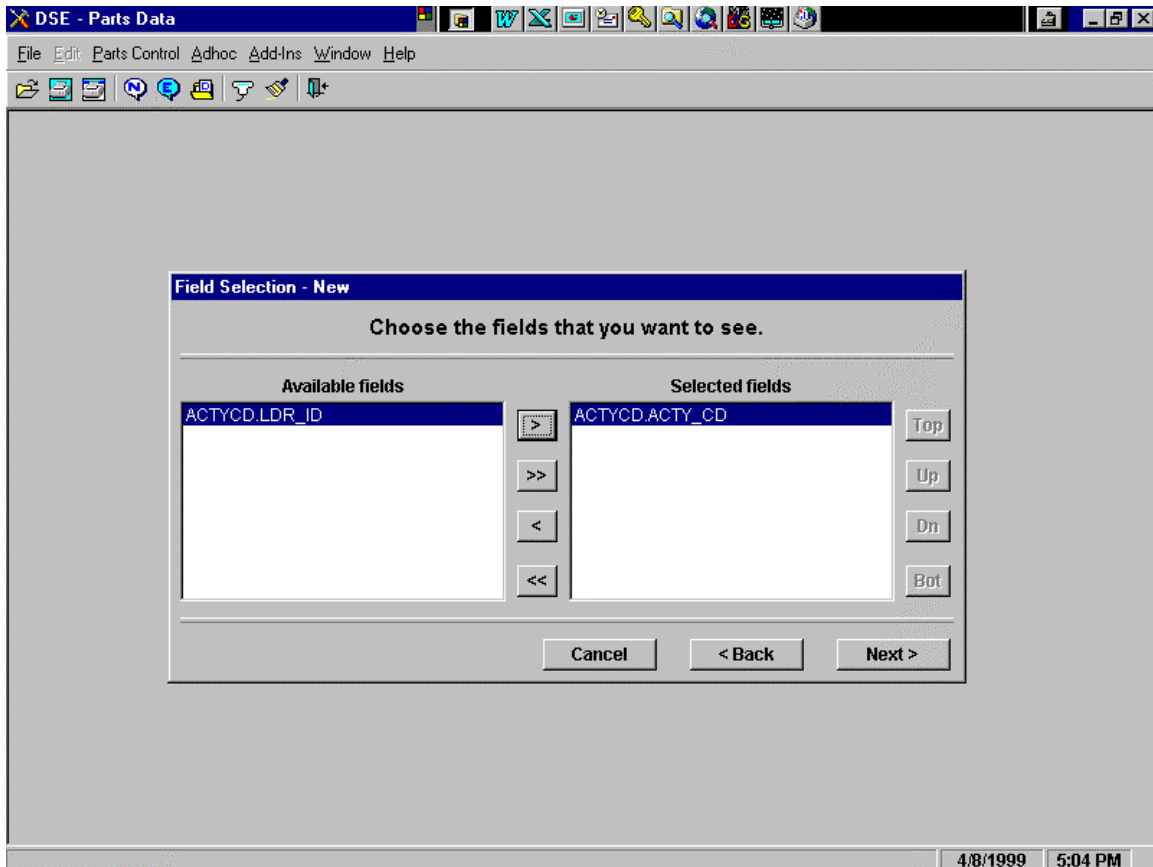

Figure 5.3e
c. Once you move any data element over to the Selected Fields area, additional buttons (< and <<) are activated. These allow you to move any or all of them back again. Once you are satisfied that all the elements have been selected, see Figure 5.3e.